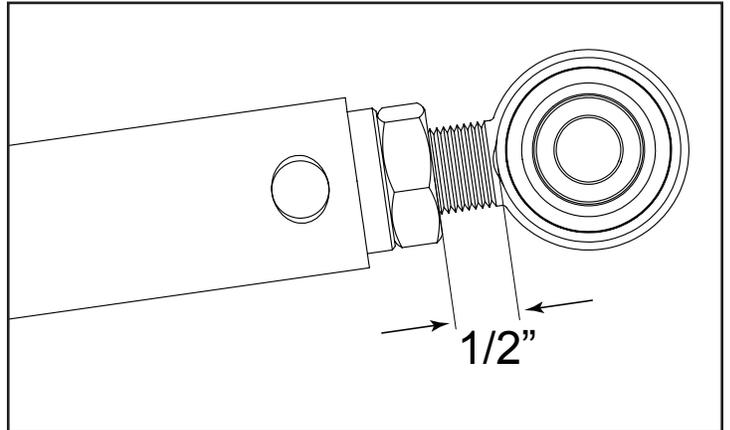

FIGURE 3 - STEP 5
5. Install all these components in the control arm bungs using the diagram below. The starting point for the adjustment on the rod end should be a 1/2 " from the jam nut. **SEE FIGURE 3**